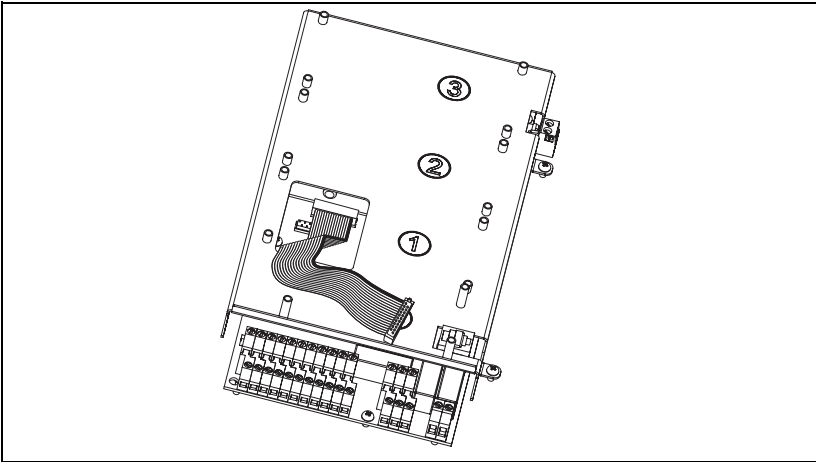

Fig. 4 Flat cable connected to the control board
6. Connect the 16-pole flat cable to the X5 connector on the control board with the cable downwards as in Fig. 4.